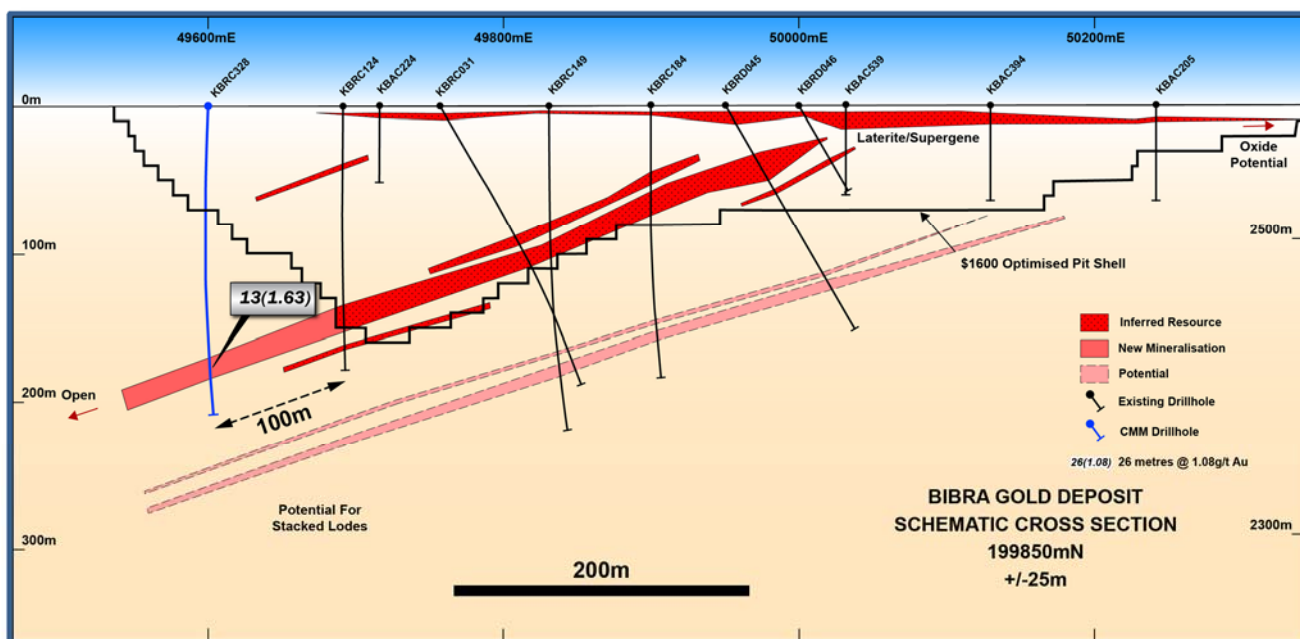

Figure 4: BIBRA GOLD DEPOSIT SCHEMATIC CROSS SECTION (200850N)
- Deeper mineralisation increasingly extends beyond the current base of the 2012 optimised pit shell and is now expected to extend the resource into these areas (Figure 4).